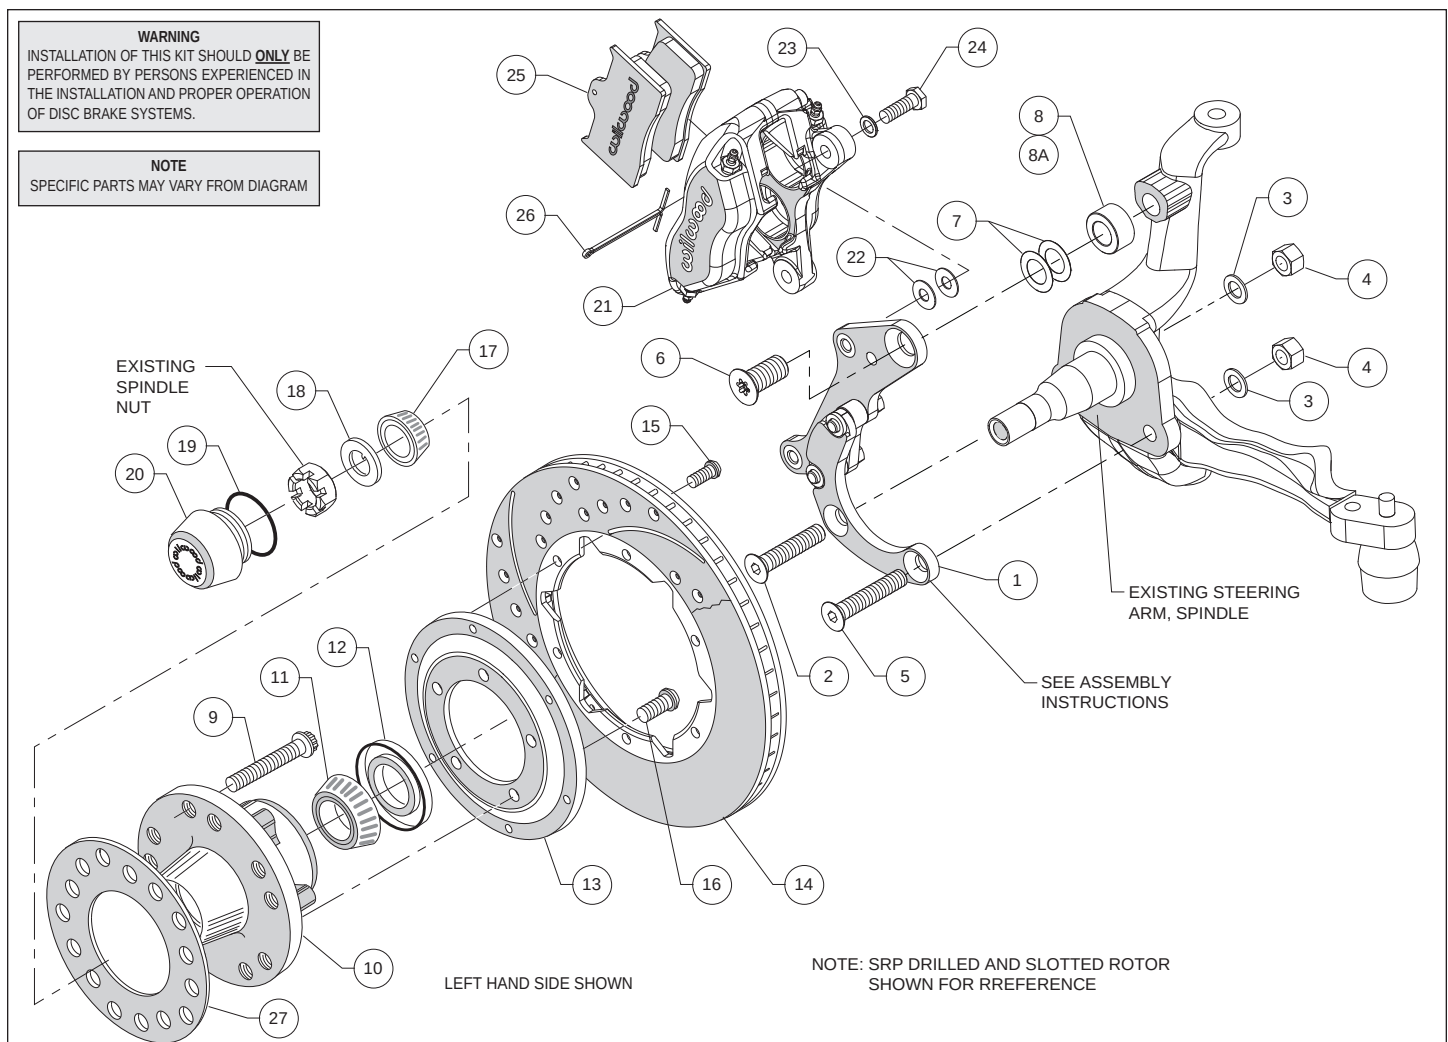
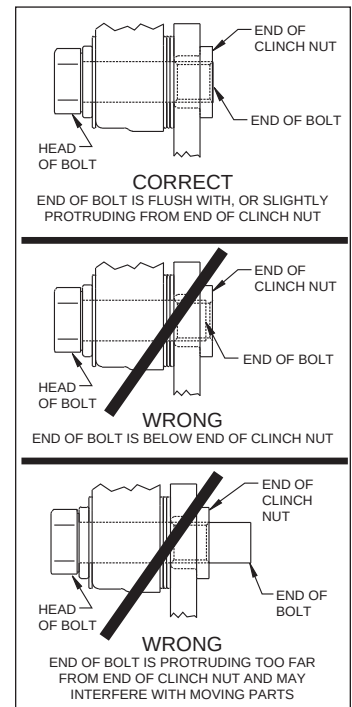

Figure 1. Typical Installation Configuration
Figure 3. Clinch Nut Engagement Diagram
Assembly Instructions (numbers in parenthesis refer to the parts list and Figure 1 on the preceding pages): **CAUTION:** All mounting bolts must fully engage clinch nuts. Be sure to check that all bolts are either flush or protruding through flanged side of clinch nut after shimming, Figure 3.
- The caliper mounting bracket (1) has been assembled at the factory for alignment purposes. Loosen the two bolts that secure the brackets together so that the bolts are hand tight only, this will enable the bracket assembly to be adjusted to accommodate various spindle tolerances during assembly. Align bracket with the two lower holes on the spindle face and attach using bolts (2 and 5), washers (3), and secure using nuts (4), as shown in Figure 1 and Photo 1. Install bolt (6) through top of bracket while placing spacer (8, Impala drum spindle only, or 8A for Impala and Corvette disc spindles) and shims (7) between bracket and spindle, Figure 1. Initially place two .010" thick shims (7) on the top bolt between the bracket and upright, Figure 1. Temporarily tighten the mounting bolts. Ensure that the flanged heads of the clinch nuts in the bracket are facing outboard, Photo 1.
- Pack the large inner bearing cone (11) with high temperature disc brake bearing grease (available from your local auto parts store) and install into the backside of the hub (10), Photo 3.
- Install the grease seal (12) by pressing into the backside of the hub (10), flush with the end of the hub, Photo 3.
- Orient the rotor (14) and the rotor adapter (13) as shown in Figure 1 and Photo 4. Attach the rotor to the adapter using bolts (15). Using an alternating sequence, apply red *Loctite*® 271 to the threads, and torque to 25 ft-lb.
- Mount the adapter/rotor assembly (13/14) to the hub (10) using bolts (16), as shown in Figure 1 and Photo 5. Using an alternating sequence, apply red *Loctite*® 271 to the threads, and torque to 55 ft-lb.
- Pack the small outer bearing cone (17) with high temperature disc brake bearing grease and install into hub (10). Slide the hub/rotor assembly onto the spindle. Secure using spindle washer (18) and spindle nut (19), Photo 6. Adjust bearings per OEM specifications. Install saved OEM nut lock (if any) and a new cotter pin (not supplied).
- Screw dust cap (20) into hub (10), Photo 7. Friction created by the o-ring (19) on the dust cap keeps it from unscrewing. **NOTE:** The O.D. of the existing OEM spindle washer may be larger than the I.D. of the dust cap not allowing it to seat against the hub face. Therefore, use the spindle washer (18) supplied with the kit instead of the OEM washer.
- NOTE:** Please reference the caution statement at the beginning of the assembly instructions. Mount the caliper (21) onto the caliper mounting bracket (1) using bolts (24) and washers (23), as shown in Figure 1. Initially place two .035" thick shims (22) on each bolt between the caliper and the bracket, Photo 8. Temporarily tighten the mounting bolts and view the rotor (14) through the top opening of the caliper. The rotor should be centered in the caliper, Photo 9. If not, adjust by adding or subtracting shims between the bracket and the caliper. Always use the same amount of shims on each of the two mounting bolts. **NOTE:** The end of each bolt must be flush with or slightly protruding from the head of the clinch nut, as shown in Figure 3. If necessary place spare shims between washer (23) and caliper mounting ear to achieve the proper clinch nut engagement. Once the caliper alignment and clinch nut engagement are correct, remove the bolts one at a time, apply red *Loctite*® 271 to bolt threads, and torque to 40 ft-lb.
- Install the disc brake pads (25) into the caliper, with the friction material facing the rotor (14), and secure in place using cotter pin (26), Photo 10.